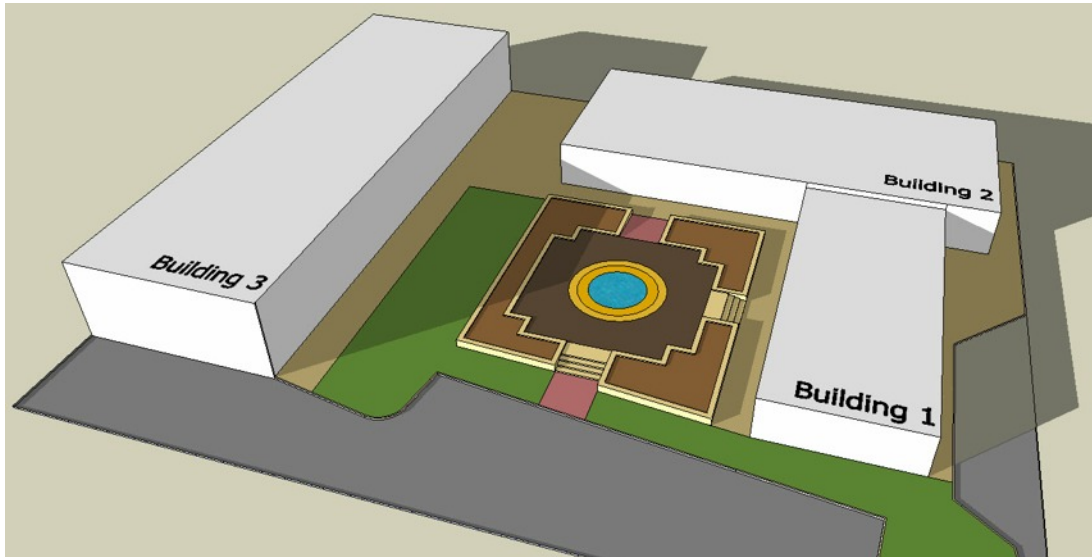

Figure 26. Buildings with added volume
- Starting with Building No. 1 as shown in Figure 26, use the Push/Pull tool to give a height of 3500mm.